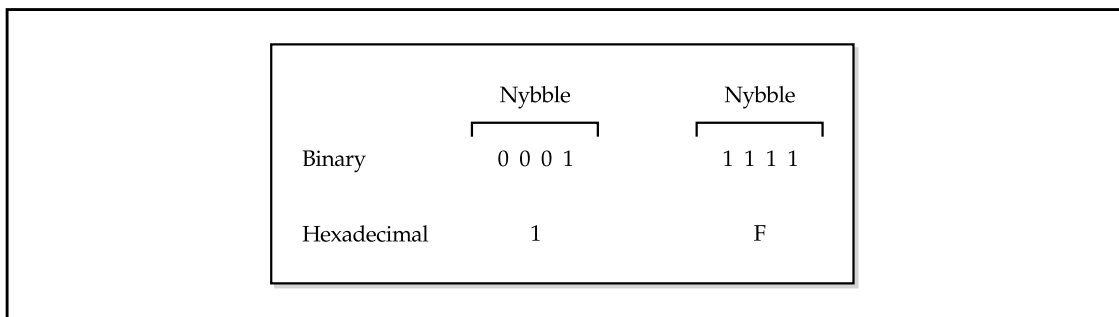

Figure 3-2. A nybble holds a 4-bit hexadecimal value
- A *nybble* (pronounced “nibble”), shown in Figure 3-2, is a 4-bit binary word. It holds the binary equivalent of the decimal values 0 to 15. An 8-bit binary number is divided into two nybbles so it can hold two hexadecimal numbers (see “The Hexadecimal System” later in the chapter).